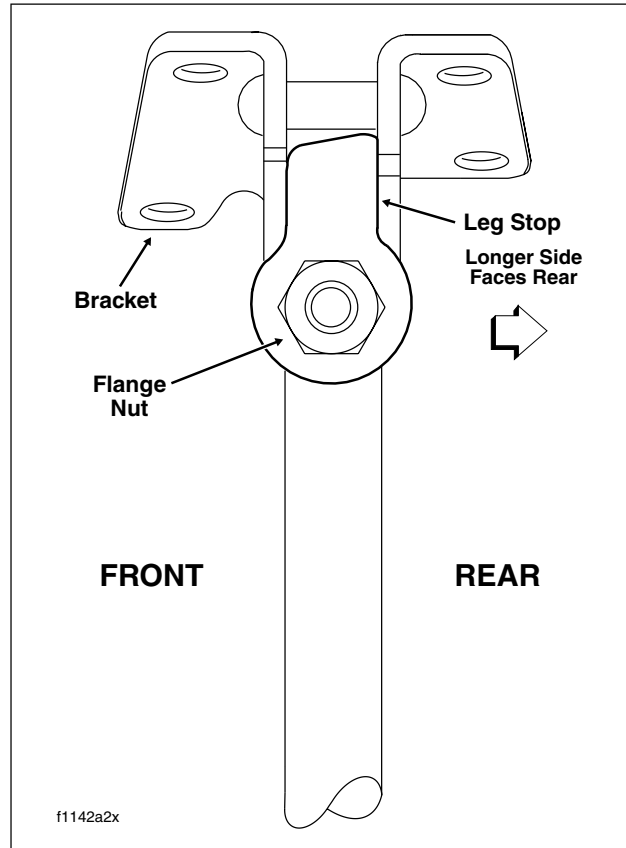

Figure 2-187. Leg Stop Orientation (Full Forward Position)
4. Verify that the longer side of the leg stop faces the rear of the vehicle. See Figure 2-187.